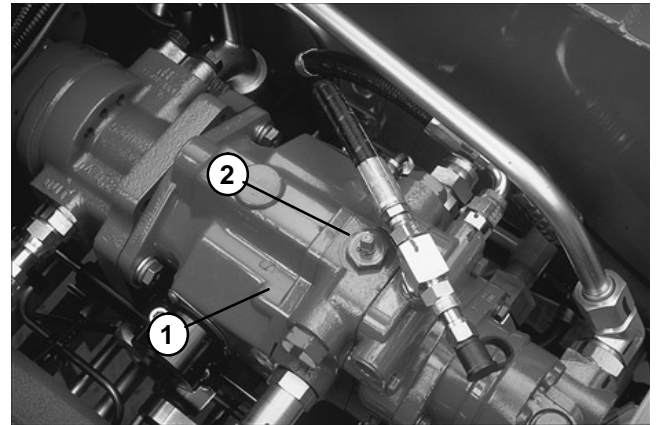

Figure 8
4. Rotate by-pass valve 90 degrees. Opening the valve opens an internal passage in the traction pump, thereby by-passing hydraulic oil. Because oil is by-passed, traction unit can be moved without damaging the hydraulic system (Fig. 8).